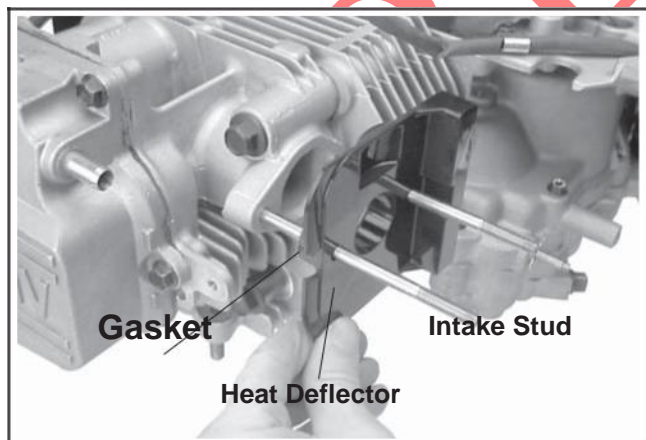

Figure 9-19. Removing Heat Deflector.
4. Carefully loosen and remove the heat deflector and gasket from intake studs. The heat deflector is made from a plastic that is quite brittle. Do not pry on the corners, or you risk cracking/breaking the deflector. If prying is necessary to loosen the deflector, pry near the intake studs. See Figure 9-19.